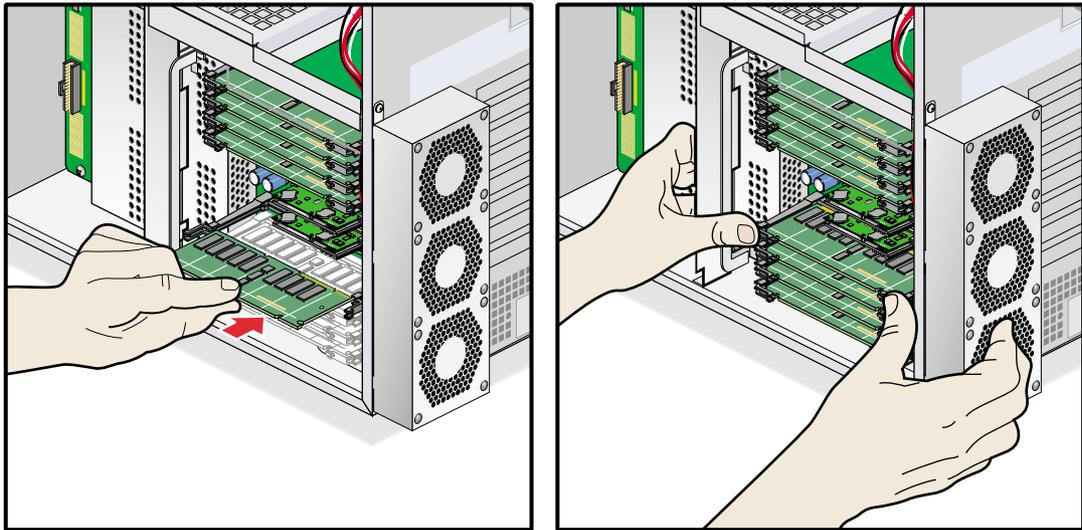

Figure 3-10 DIMM Installation Example
- d. Insert the bottom edge of the DIMM into the socket, and then press evenly on the DIMM until it seats correctly. Use extreme care when you install a DIMM. If you apply too much pressure, you can damage the socket. See Figure 3-10 for an example.